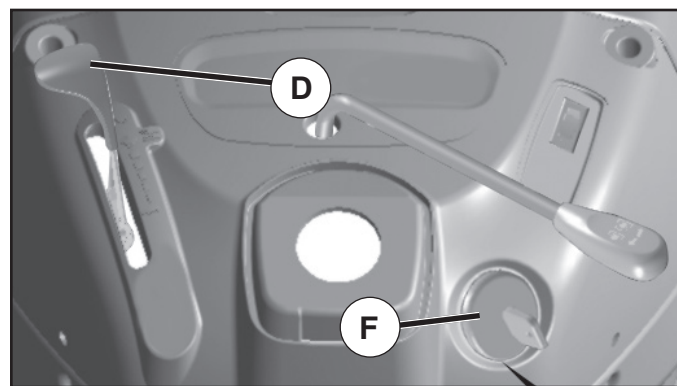

Fig. 9
### TO USE THROTTLE CONTROL (D) (See Fig. 9)